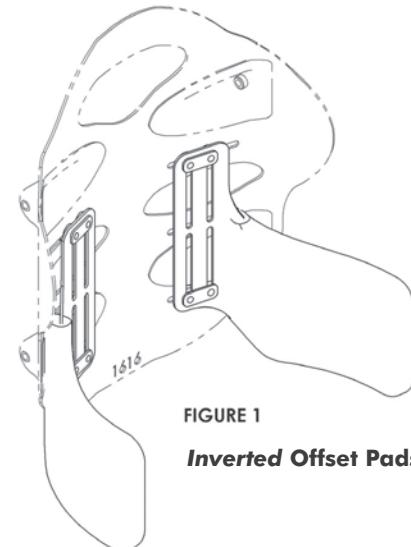

FIGURE 1
1. LATERALS CAN BE MOUNTED UPSIDE DOWN ON OPPOSITE SIDES FOR LOWER SUPPORT - SEE FIGURE 1